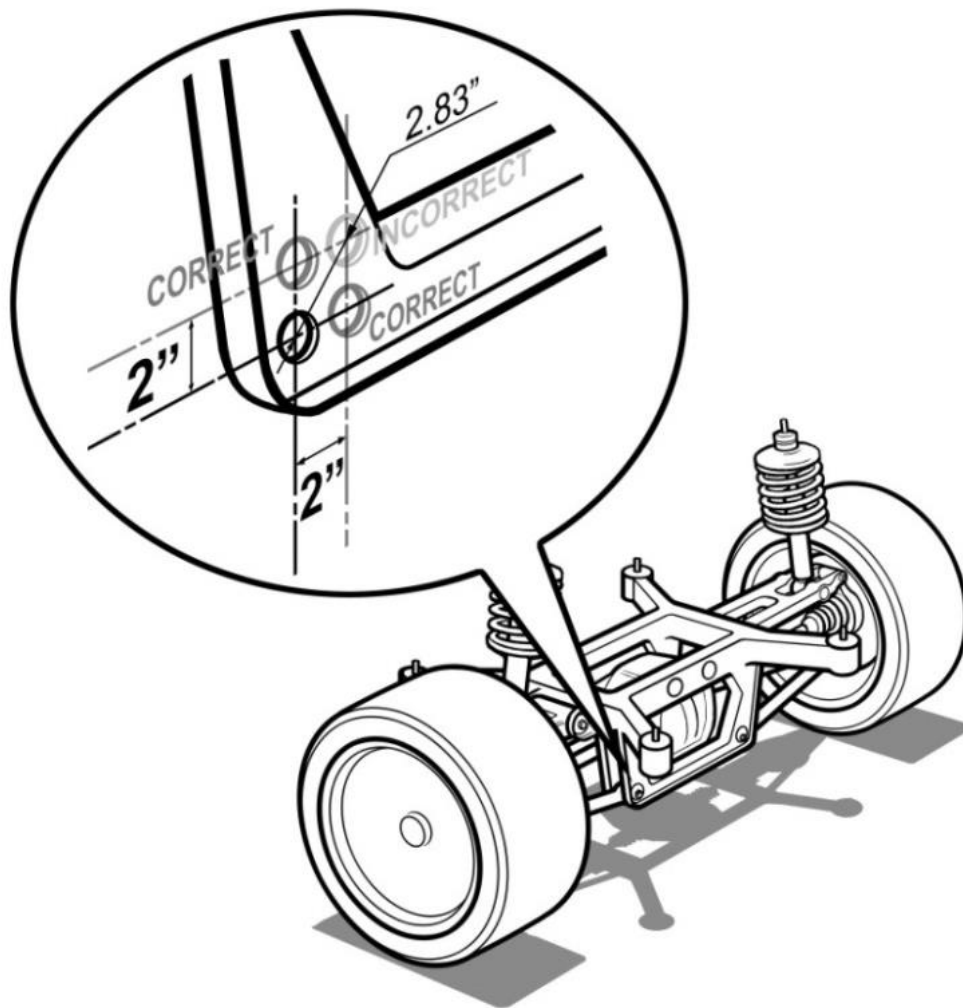

Figure 8
- J. This will be measured center to center from the original pivot point to the new pivot point. Please refer to Figure 8. This rule only applies to vehicles with a rear subframe and to pivot points on the rear subframe.